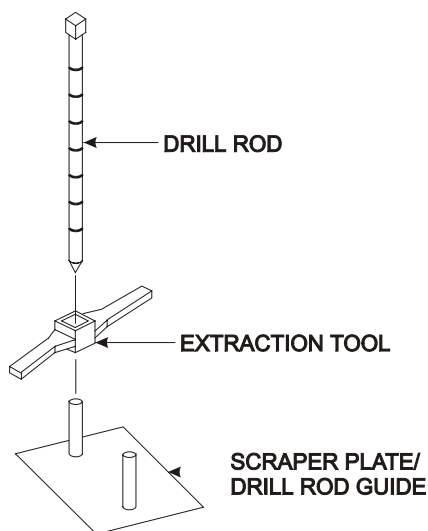

Figure 3-4. Drill Rod Positioning
- ✓ For direct transmission measurements, put the drill rod through the extraction tool and then through one of the guides on the plate (see Figure 3-4).